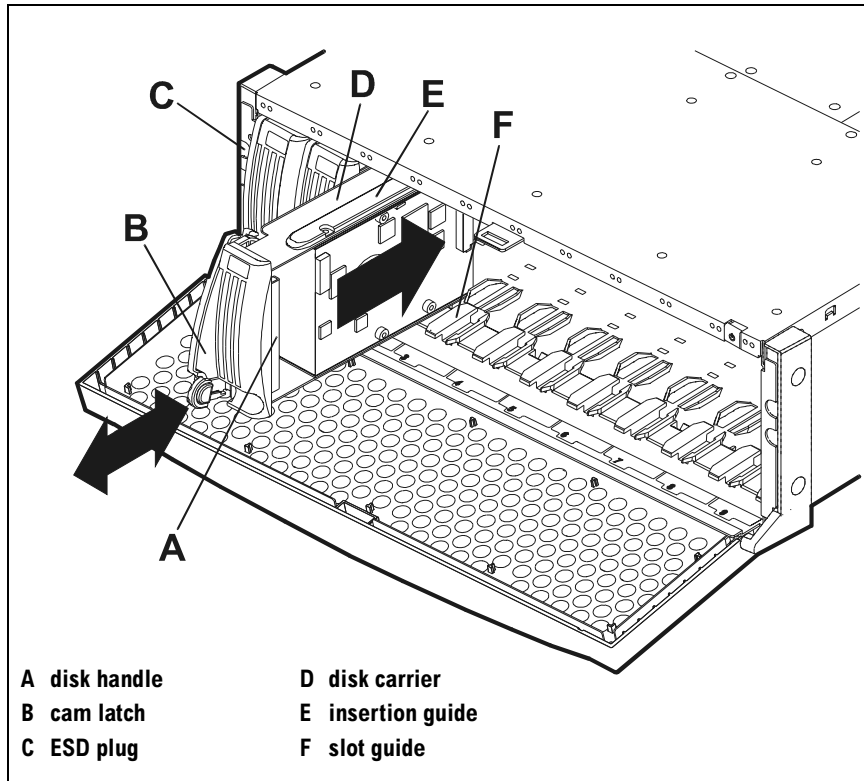

Figure 29 Disk Insertion
Disks are fragile and ESD sensitive. Dropping one end of the disk just two inches is enough to cause permanent damage. In addition, static electricity can destroy the magnetic properties of recording surfaces. Grip disks only by their handles (A in Figure 29) and carriers (D), and follow strict ESD procedures.
2. Put on the ESD strap provided and insert the metal end into the ESD socket (D in Figure 29) on the front of the disk system.